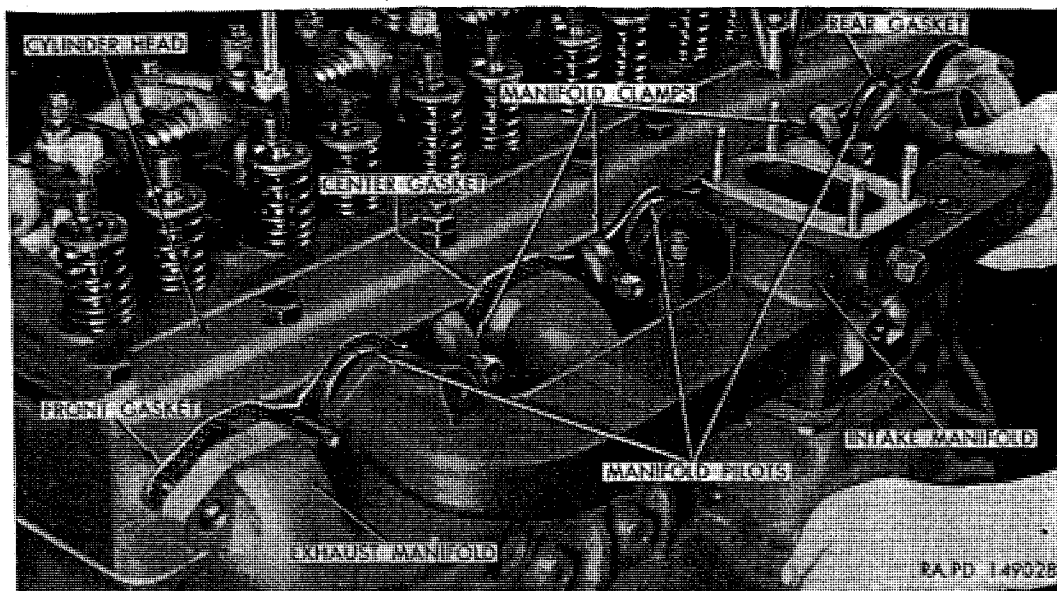
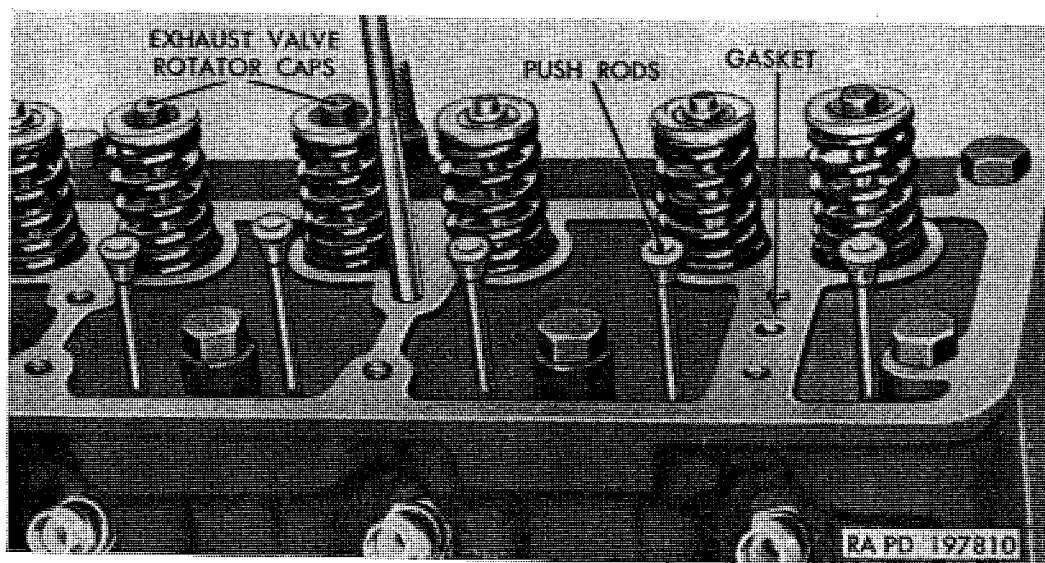
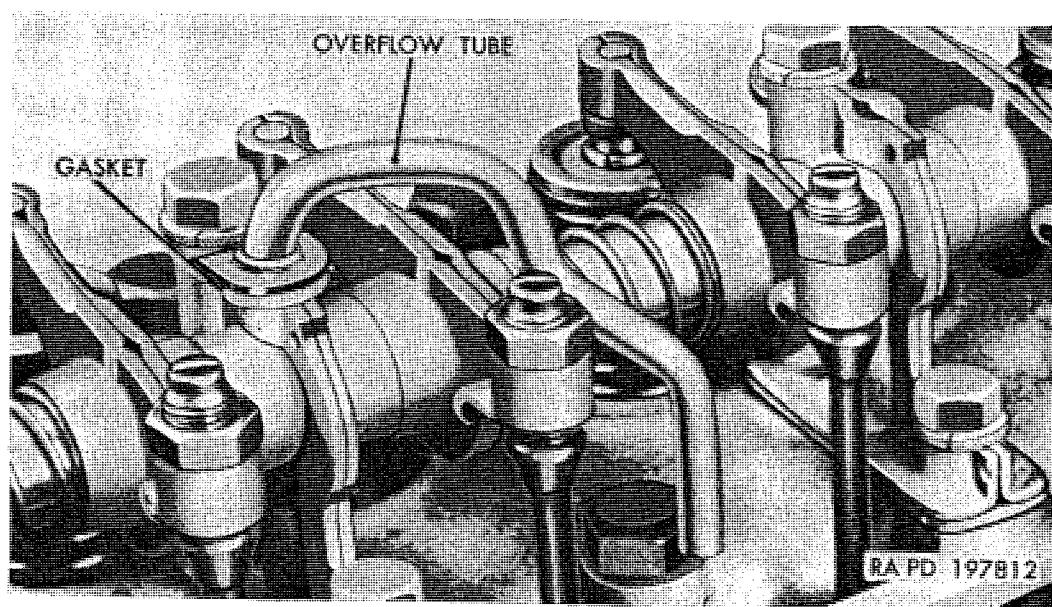

Figure 97. Installing manifolds.
Figure 103. Push rod and bracket gasket installed.
Figure 105. Rocker arm shaft overflow tube installed.
- (5) On vehicles equipped with engine primer, disconnect primer line at fitting at rear of manifold.
- (6) Remove stud nuts and washers from two studs in cylinder head at each end of manifold assembly. Pull governor line clip or bracket off rear stud. Loosen balance of stud nuts sufficiently to permit turning clamps (fig. 97) to vertical position. Pull manifold assembly away from cylinder head and remove from vehicle.
- (1) Assemble manifolds, using new gasket between intake and exhaust manifolds. Install bolts and stud nuts, but do not tighten until after manifold assembly is mounted on cylinder head. Accelerator lever spring bracket must be installed and retained by rear stud nut.
- (2) Insert three manifold pilots in counterbores in cylinder head and locate gaskets at cylinder head as shown in figure 97. Place four clamps on manifold studs and start nuts on threads. Set manifold assembly in place (fig. 97) at cylinder head and turn clamps to hold in place.
- (3) Install washers and stud nuts on end studs, attaching governor line clip bracket at rear stud. Tighten two stud nuts at
- (9) Remove nut from exhaust pipe heat shield brace stud at cylinder block, and loosen clamp connecting front and rear exhaust pipes.
- (10) Remove nuts from manifold studs; then remove clamps and washers from all studs. Force manifold assembly away from cylinder head and insert block between exhaust pipe and cylinder block to hold manifold away from cylinder head while replacing cylinder head.
- (11) Remove two stud nuts (R) which retain cylinder head cover to cylinder head. Remove cover and gasket.
- (12) Remove rocker-arm-shaft-bracket-to-cylinder-head bolts and lockwashers, and remove stud nuts from two long studs. Overflow tube and gasket (fig. 105) are held by long bolt at fourth bracket. Lift off rocker arms, shaft, and brackets as an assembly.
- (13) Remove 12 push rods from holes in cylinder head, and remove gasket (fig. 103) at oil passage in cylinder head at shaft bracket.
- (4) Place intake manifold pilots and new manifold gaskets at cylinder head. Place four manifold clamps (fig. 97) and nuts on four studs, with clamps turned to permit installation of manifold assembly.
- (5) Lift manifold assembly into place at cylinder head, turn clamps to engage manifolds, and tighten sufficiently to hold manifold in place. Install special washers and nuts on two studs at each end of manifold assembly. Governor line clip bracket must be mounted on rear stud. Tighten all manifold stud nuts evenly and finally tighten four end stud nuts to 25 to 30 pound-feet torque; tighten nuts at manifold clamps to 15 to 20 pound-feet torque. Install and tighten clamp which connects front exhaust pipe to rear exhaust pipe.
- (6) Connect accelerator and choke controls and install nut on heat shield brace stud at cylinder block.
- (7) Insert 12 push rods (fig. 103) through push rod holes in cylinder head. Lower end of push rods must seat in sockets in valve tappets.
- (8) Place copper-asbestos gasket (fig. 103) in recess at rocker arm shaft front bracket position on cylinder head.
- (9) With exhaust valve rotator caps (fig. 103) in place on exhaust valves, place the rocker arms, shaft, and bracket assembly over long studs and onto cylinder head. Install one $\frac{3}{8}$ -inch lockwasher and $\frac{3}{8}$ -24 nut on each long stud. As stud nuts are tightened, spherical ends of rocker arm adjusting screws must seat into cups at upper end of push rods. Install four $\frac{3}{8}$ -24 x $3\frac{1}{4}$ bolts and $\frac{3}{8}$ -inch lockwashers and six $\frac{3}{8}$ -16 x $1\frac{1}{8}$ bolts with $\frac{3}{8}$ -inch lockwashers at rocker arm shaft brackets. Overflow tube assembly and new gasket must be assembled at No. 4 bracket as shown in figure 105. Tighten bolts and stud nuts to 20 to 30 pound-feet torque.